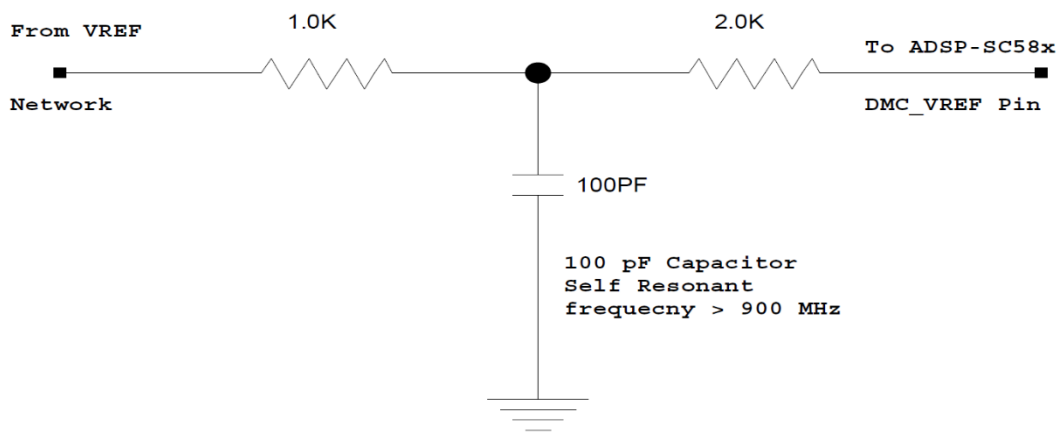

Figure 11. Recommended DMC_VREF Filtering Network
- The RCR filtering scheme on DMC_VREF is recommended for ADSP-SC5xx products, as shown in Figure 11.